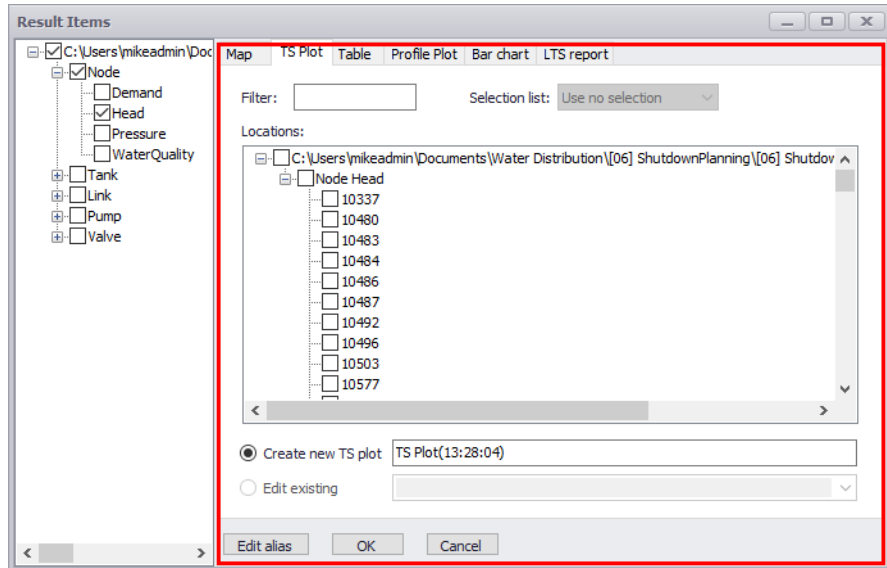

Figure 20.24 The TS Plot tab on the Result Items dialog
- Access the TS Plot tab on the Result Items dialog (Figure 20.24)
- **Time series plot.** This tool launches the Result Items dialog wherein a time series plot may be configured via the TS Plot tab (Figure 20.24).